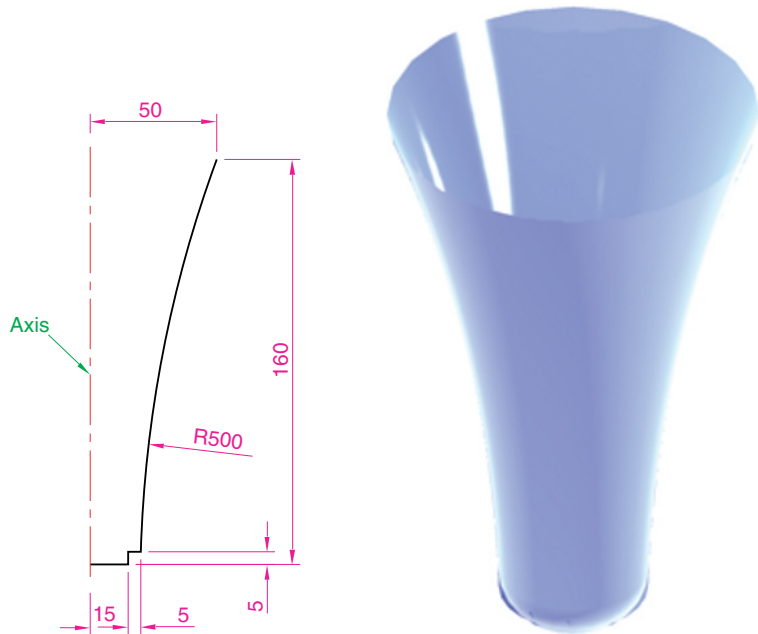

Fig. 18.27 Fourth example of 3D models
Fourth example (Fig. 18.27)
1. **3D Navigate/Front.** Construct the polyline – left-hand drawing of Fig. 18.27.
4. **3D Navigate/Southwest Isometric.** Render (right-hand illustration of Fig. 18.27).